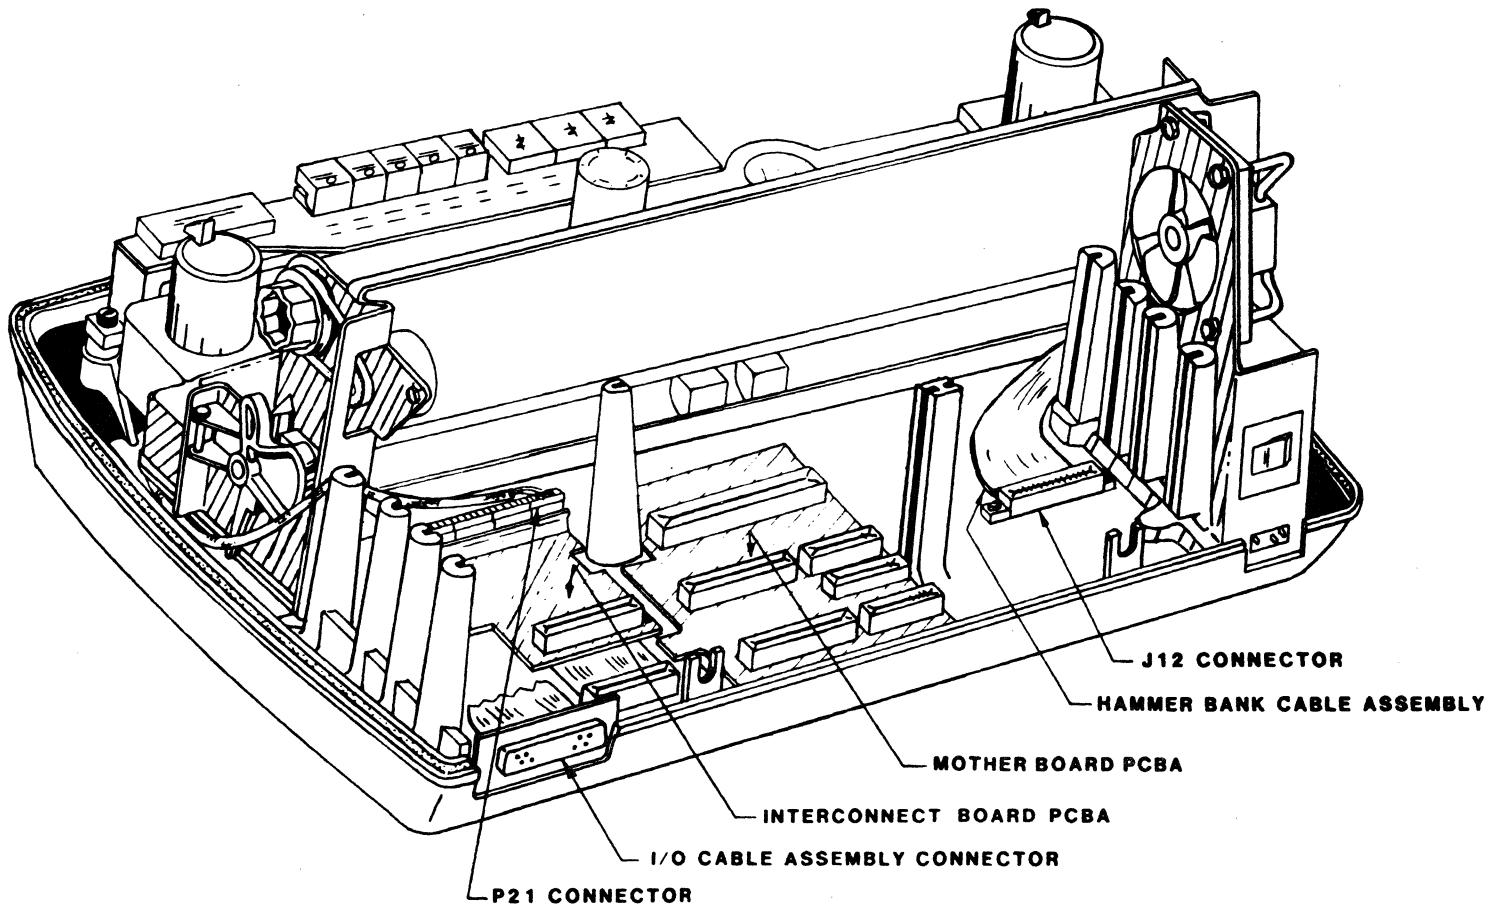

Figure 3-6. Rear View of Printer, Major PCBA's Removed
To remove the Interconnect Board PCBA, refer to **Figure 3-6** and perform the following steps:
To remove the Mother Board PCBA, refer to **Figure 3-6** and perform the following steps:
3. Remove the two hex head screws securing the Hammer Bank Cable Assembly connector J12 to the cabinet base (**Figure 3-6**).